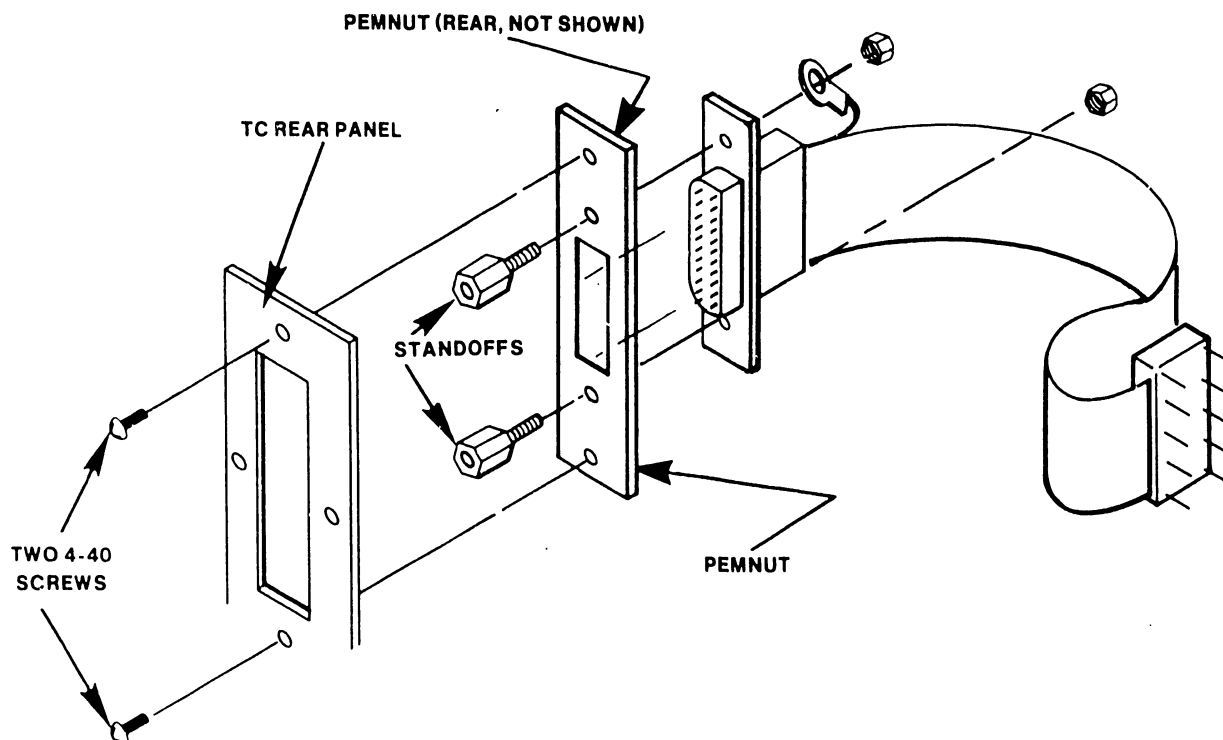

Figure 4-24 X.21 Interface Cable Installation
1. Position the TC rear panel as shown in Figure 4-24 (external view of rear cable panel).
2. Fit the X.21 cable "D" connector to the adapter plate. Make certain that the long edge of the "D" connector is positioned to the right (Figure 4-24).
3. Insert two threaded standoffs (P/N 478-0791) through the X.21 adapter plate (P/N 452-0274) holes. Ensure pemnuts on adapter plate are facing as shown in Figure 4-24.
4. Place the red wire ground lug and washer on the standoffs as shown in Figure 4-24.